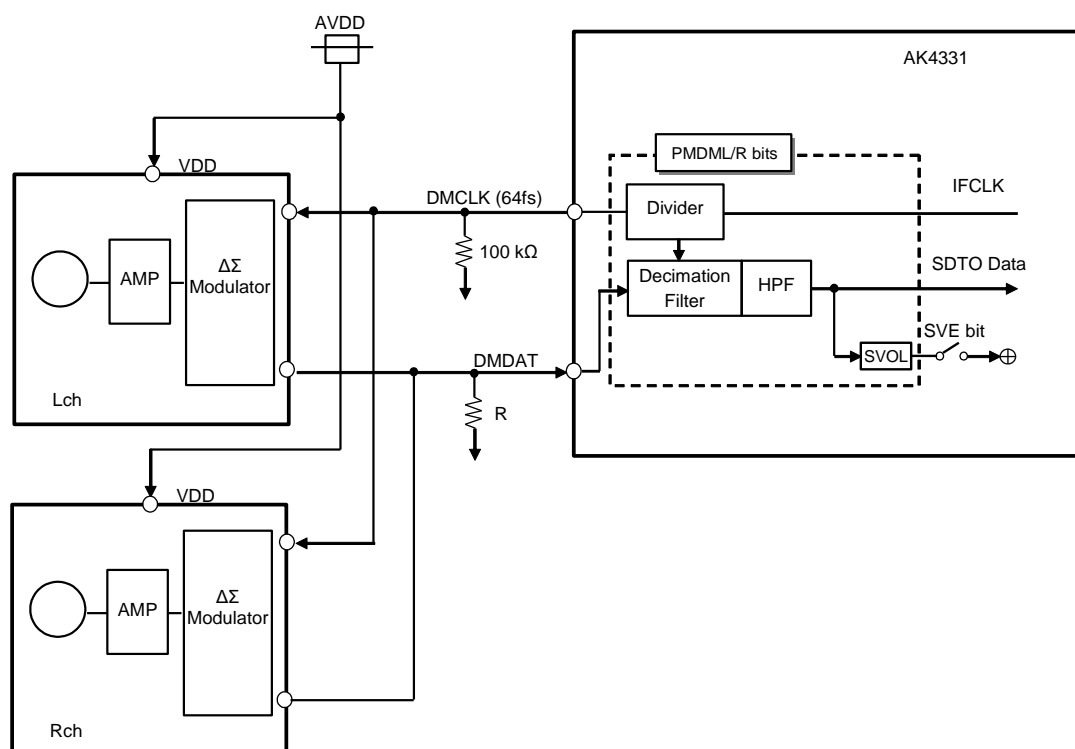
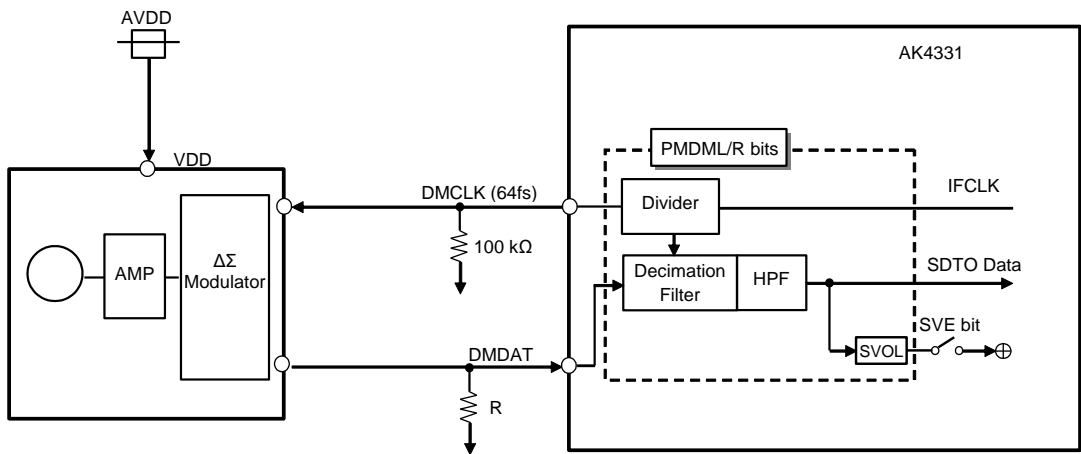

Figure 19. Connection Example of Stereo Digital Microphone
Figure 20. Connection Example of Mono Digital Microphone
The same power supply as AVDD must be provided to the digital microphone. The Figure 19 and Figure 20 show mono/stereo connection examples. The AK4331 provides DMCLK to a digital microphone by converting IFCLK to 64fs with a built-in decimation filter. Accordingly, the digital microphone generates 1-bit data by  $\Delta\Sigma$  Modulators and transmits to the DMDAT pin of the AK4331. PMDML/R bits control power-up/down of the digital block (Decimation Filter and HPF). The DCLKE bit controls ON/OFF of the output clock from the DMCLK pin. When the AK4331 is powered up (PDN pin = "H"), external pull-down resistor (R) should be connected to the DMDAT pin to avoid floating state.